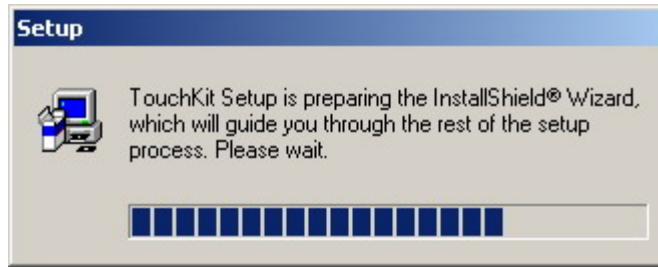

Figure D-2: Install Shield Wizard Preparation
Step 4: Once the OS system is selected, the touch kit setup will prepare the install shield wizard (**Figure D-2**).